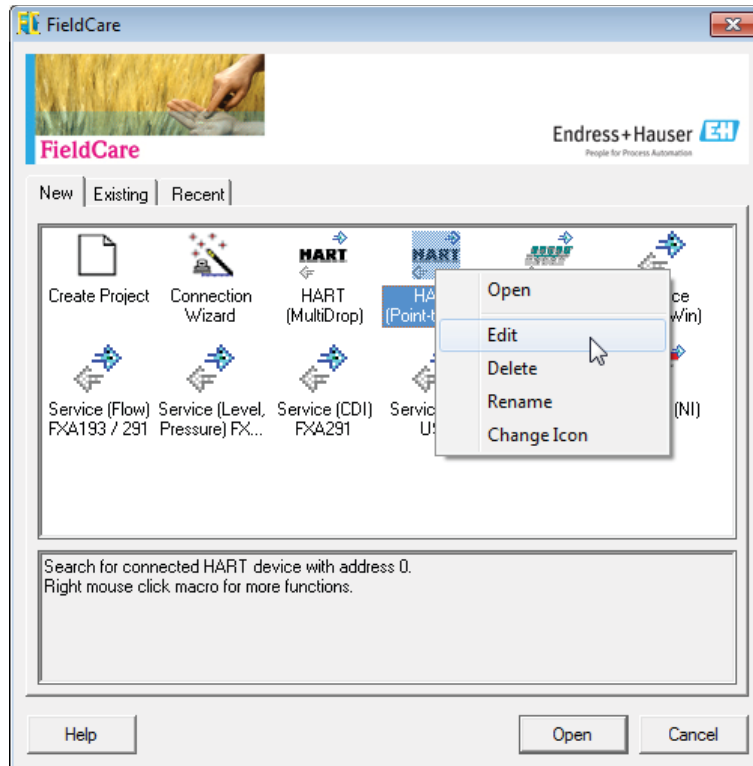

Figure 2-9. Edit Point-to-Point macro.
5. In the new dialog window, right-click on *HART (Point-to-Point)* and select *Edit* (see Figure 2-9).